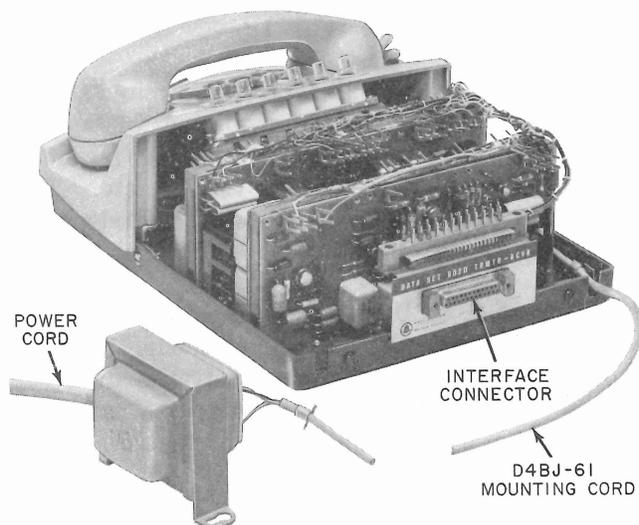

Fig. 2—Data Set 602D-Type, Inside Rear View
2.02 The Data Set 602D-type is factory equipped with a D4BJ-61 (5-1/2 foot, 4-conductor) mounting cord (Fig. 2).
2.09 The business machine connector cord and plug must be supplied by the customer. Business machine connection will be made at the data set interface connector, which is a 25-pin KS-19087, L6 type (Fig. 2). Table A shows the lead assignments. Pins not identified in Table A